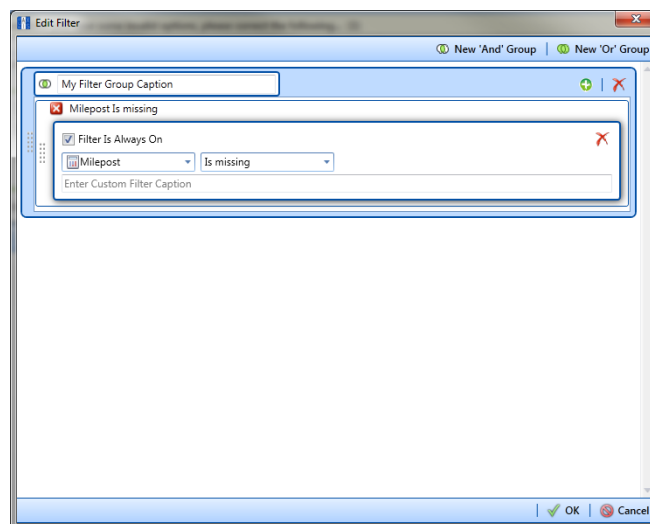

Figure 9-17. New 'And' Filter Group
- a Click **New 'And' Group** to open the filter properties group box (Figure 9-17).